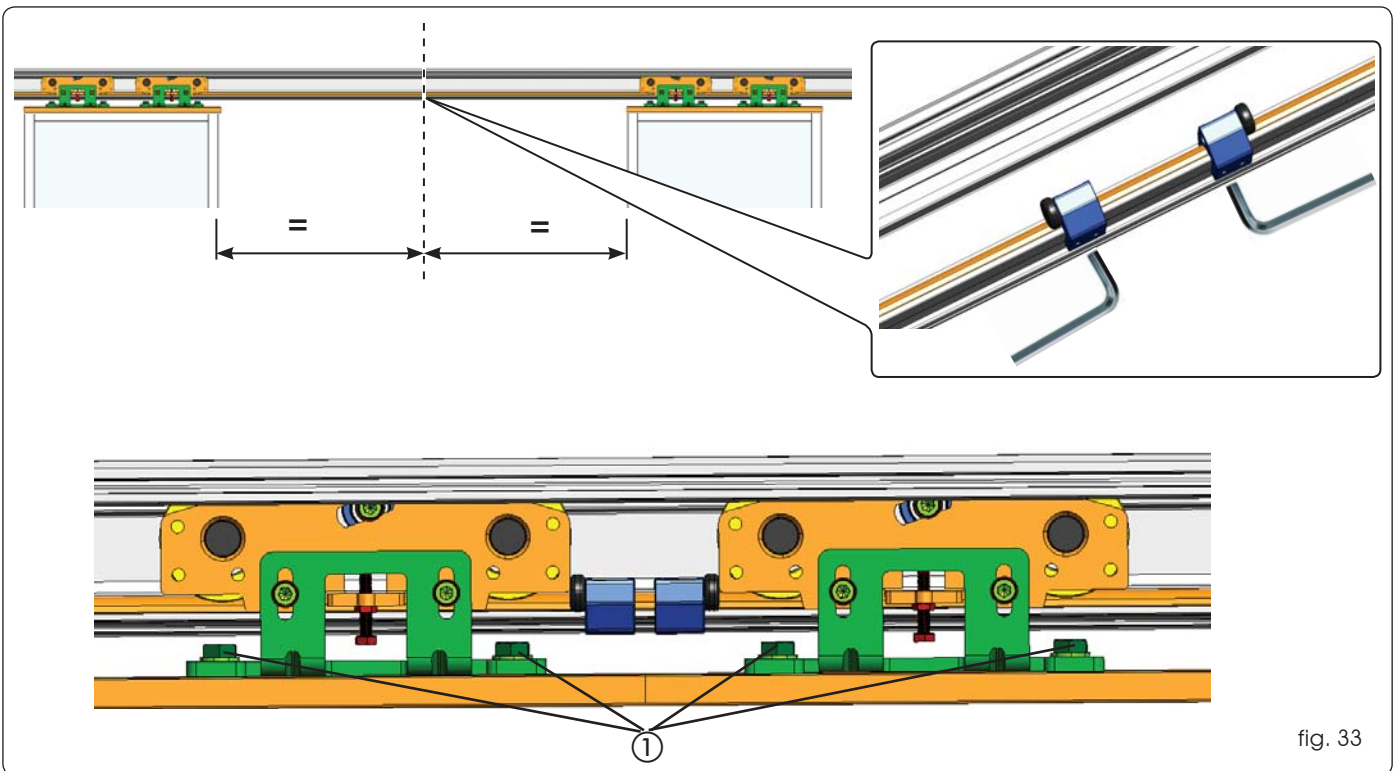

fig. 33
- Loosen the 2 bolts of the carriages (Fig.33 ref.①).